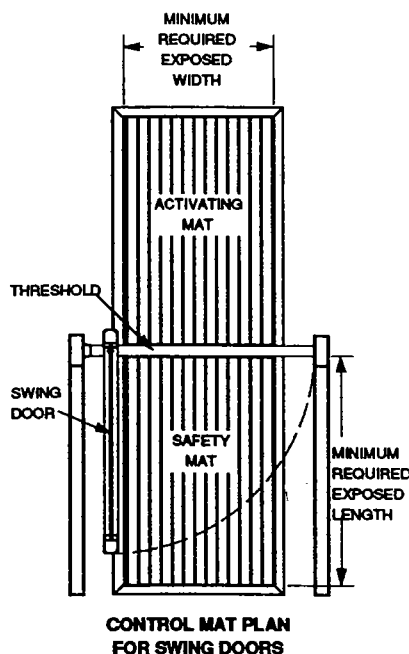

Figure 2
5. It Is Necessary to Have a "Safety Mat" Covering the Entire Area the Door Swings Over. Step through the doorway onto the safety mat and remain motionless for four seconds. The door should remain open. Repeat at several locations on the mat. (See Figure 2)